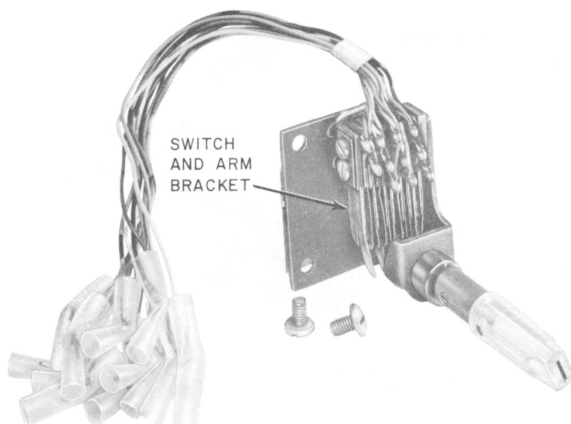

Fig. 6—D-180384 Kit of Parts
3.12 Install the two-line service (D-180384 Kit of Parts, Fig. 6) as follows: